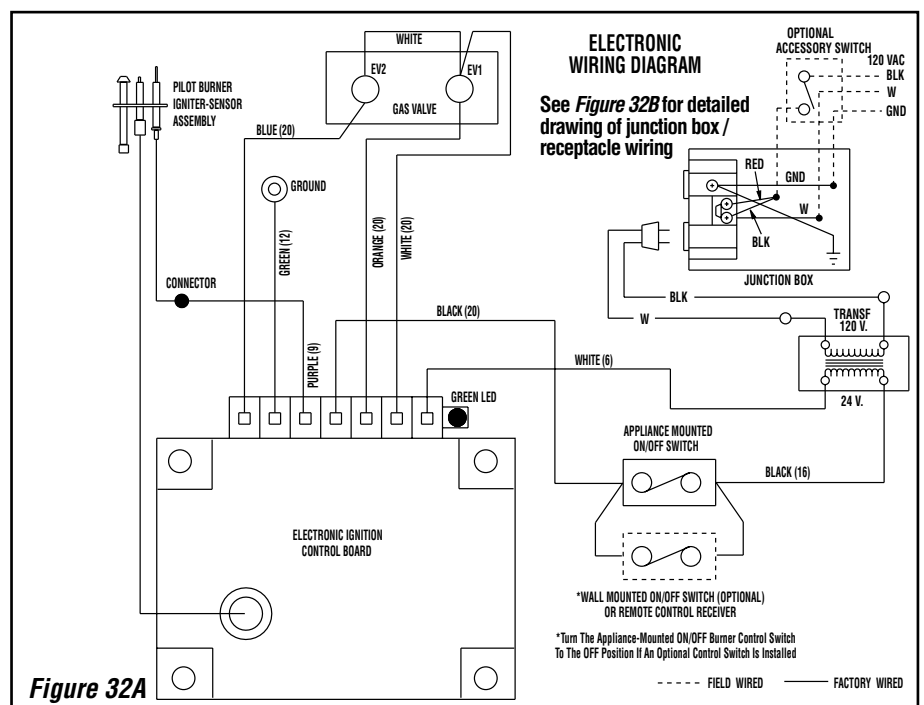

Figure 32A
B. Electronic Wiring (See Figures 32A and 32B)
4. Connect the black power supply wire to the power outlet's red pigtail lead and the white power supply wire to the common terminal of the outlet as shown in Figures 32A and 32B.
8. If an optional control is to be used, wire it in the low voltage circuit (see Figures 32A and 32B).
Ground supply lead must be connected to the wire attached to the green ground screw located on the outlet box. See Figures 32A and 32B. Failure to do so will result in a potential safety hazard. The appliance must be electrically grounded in accordance with local codes or, in the absence of local codes, the National Electrical Code, ANSI/NFPA 70-latest edition. (In Canada, the current CSA C22-1 Canadian Electrical Code).